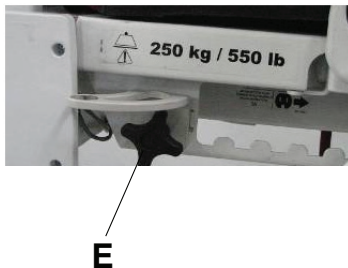

Figure 120: Attaching the screw knob
2. Attach the screw knob onto the bracket back (E) (Figure 120 on page 102).